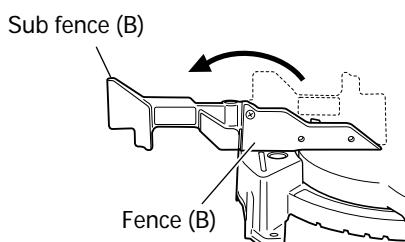

Fig. 11
**Install the sub fence (B)**
In the case of direct angle cutting and angle cutting, use the sub fence. The sub fence (B) can be installed on the right side of the guide fence (B). Place the attached plate (A) in the position as shown in figure 11, insert the tip in the groove of fence (B) and simultaneously, insert flathead screw M6 into fence (B), sub fence (B), and plate (A), then tighten nylon nut M6 with the included 10mm box wrench until the sub fence (B) can smoothly rotate. Then, you can realize stable cutting of the material with a wide back face.